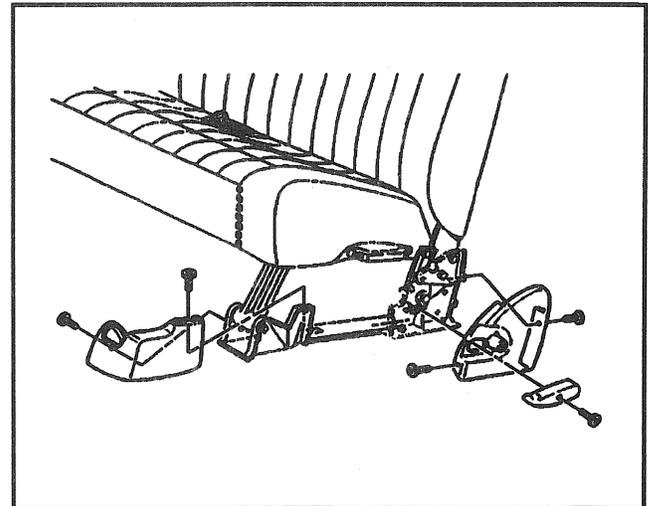

Figure 10—Folding Intermediate Seat Trim Covers (Utility)
1. Front and rear leg trim covers (Figure 10).
3. Front and rear leg trim covers (Figure 10).